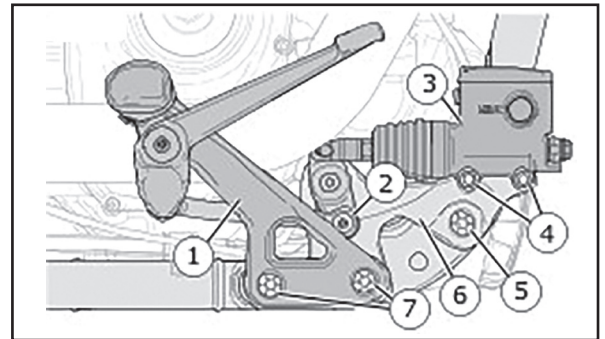

Figure 7. Right Side Mid Controls
- b. Remove clevis pin (1).
- c. Remove footpeg (4).
- d. Remove torsion spring (2).
2. See Figure 7. Remove right side foot support bracket.
- a. Remove front linkage screw (2).
- b. Remove screws (7).
- c. Remove foot support bracket (1).
- b. Remove clevis pin (2).
- c. See Figure 7. Remove screws (4).
- d. Support rear brake master cylinder (3).
- a. Remove screw (5).
- b. Remove brake pedal bracket (6).